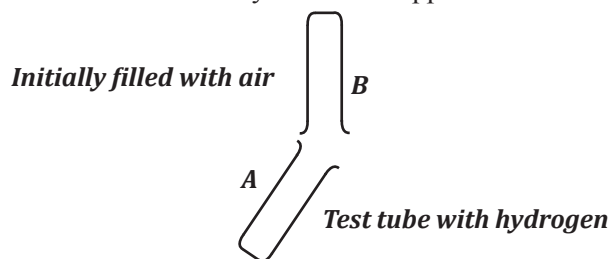

Figure 9.2; "Pouring" hydrogen upwards.
1. Prepare hydrogen as shown in figure 9.2
4. Allow the gas to escape from test tube A to another test tube B as shown in figure 9.2. The test tube B should be inverted directly over the mouth of test tube A. B is filled with air.